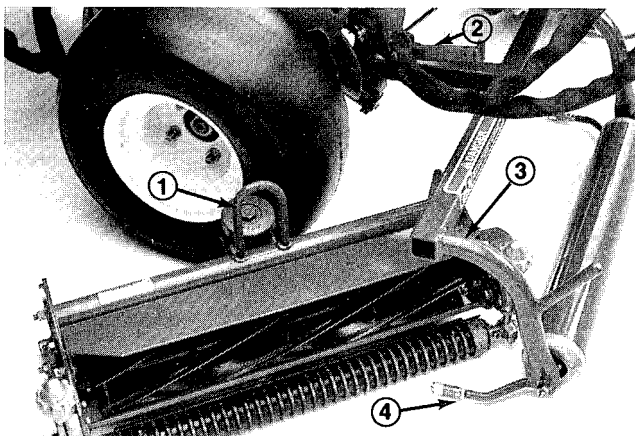

Figure 7
INSTALL CUTTING UNITS (Fig. 7–10)
2. Slide the cutting units under the pull frames and position the hoop on the top of cutting units over the lift arms (Fig. 7).